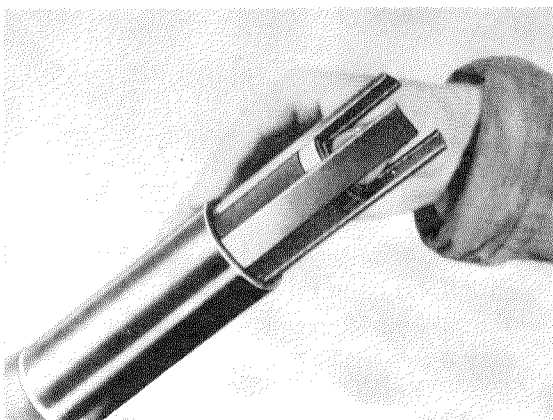

Fig. 35 — 4/60
144. Insert the outer washer (6) and the circlip (4) (see Fig. 35 — 4/54).